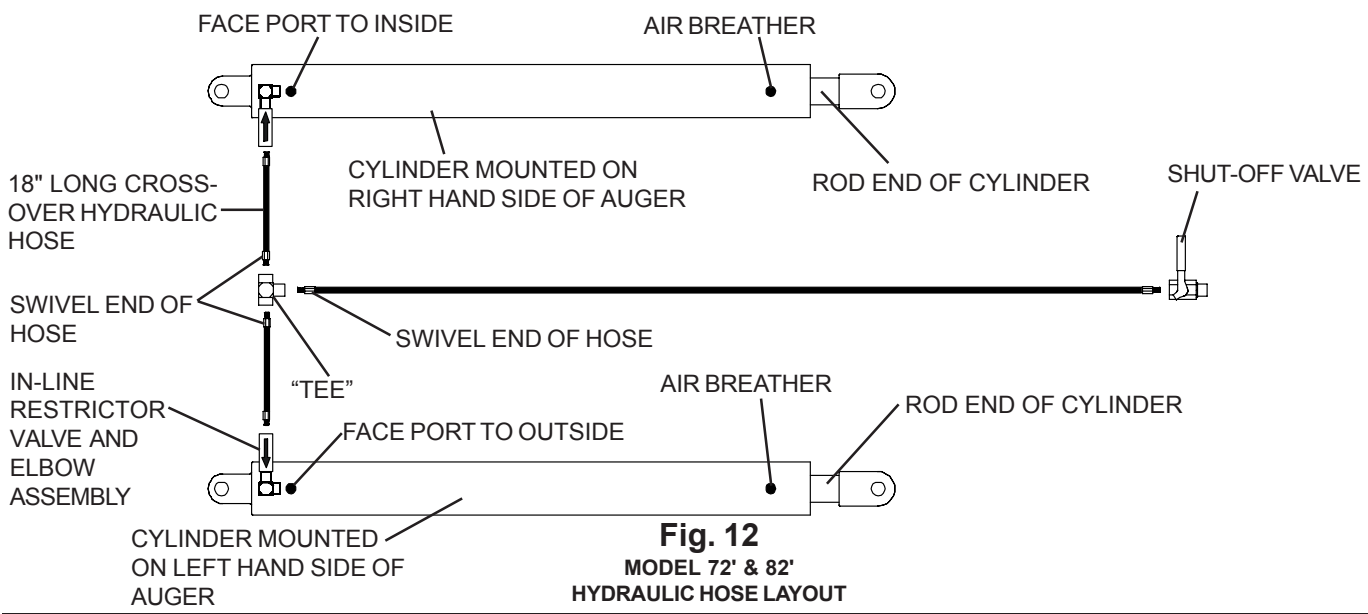

Fig. 12
together. See Fig. 12 on page
- A. Thread the in-line restrictor valve and elbow assembly into the upper cylinder port (at the base end of the cylinder). The flow direction arrow on the restrictor must point toward the cylinder port. Tighten and leave the restrictor and elbow assembly pointing down. Repeat this procedure on the opposite cylinder. (See Fig. 12.)
- B. Connect the two 18" Crossover Hydraulic hoses into the In-Line Restrictor Valve and Elbow Assemblies, one on the right cylinder and one on the left cylinder. (See Fig. 12.)
- C. Connect the swivel ends of the 18" Crossover Hydraulic hoses to the branch ends of the "tee" fitting. (See Fig. 12)